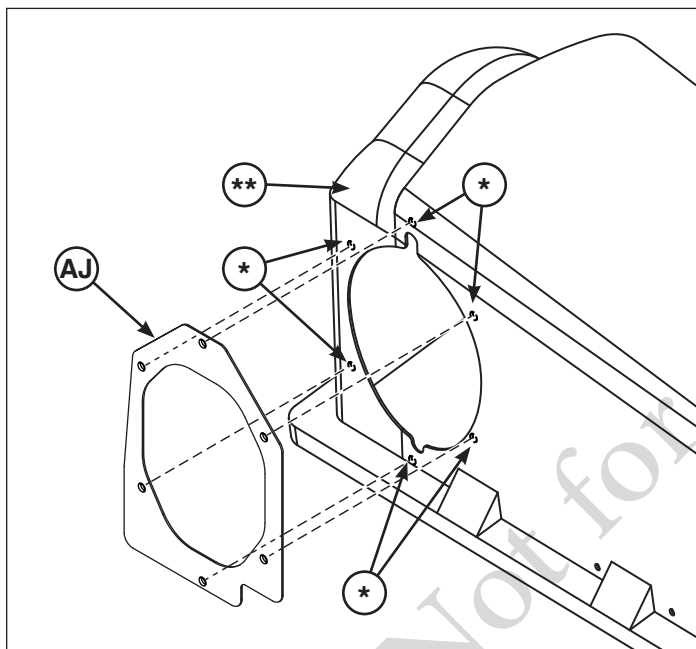

Figure 25
1. Use flange seal (**AJ**, Figure 25) as a template to drill six 13/64" holes (*) on grass catcher cover (**).